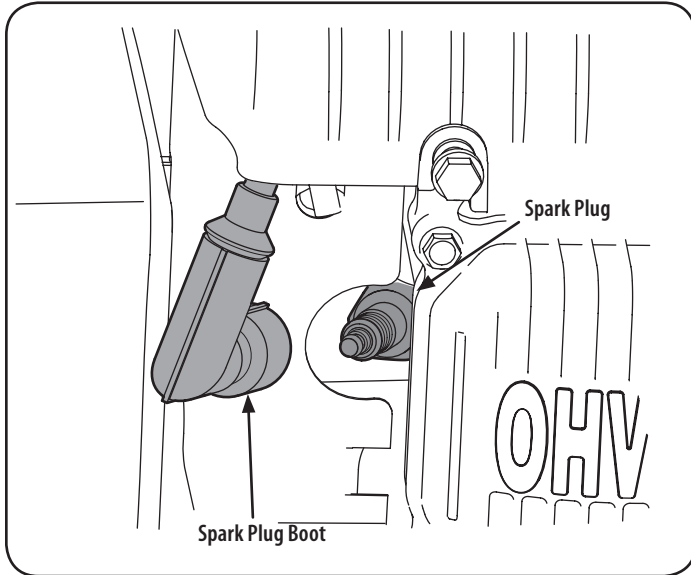

Figure 30
- Remove the spark plug boot and use a spark plug wrench to remove the plug. See Figure 30.